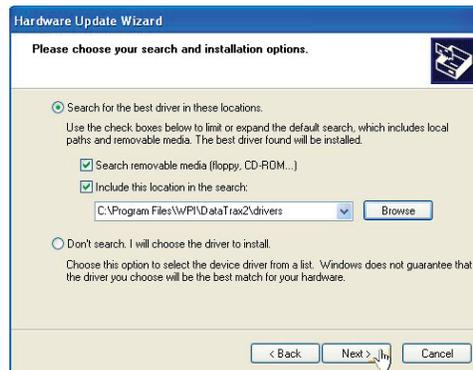

Fig. 59—Search locations
8. Select the **Install from a list or specific location** radio button, and click the **Next** button. Then, then wizard asks where to search for the install files (**Fig. 59**).